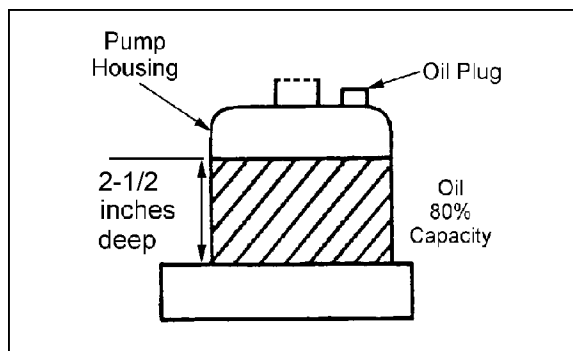

Figure 4
Check the oil level annually by removing the oil plug (50) on top of the pump housing. When changing or adding oil, fill the tank through the oil plug hole to 80% capacity with hydraulic jack oil, about 2-1/2" deep in pump housing. See Figure 4. Do **not** use any other type of oil. When finished, replace oil plug (50).
Reassemble and fill the oil tank through the oil plug hole to 80% capacity with new hydraulic jack oil, about 2-1/2" deep in pump housing. See Figure 4.